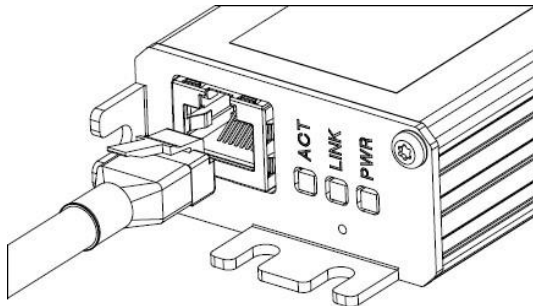
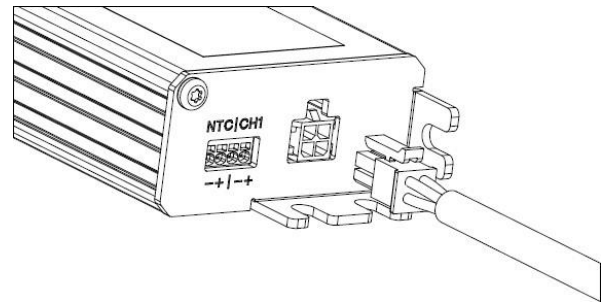

fig. 1
fig. 2
Step 3. Snap in the RJ45 connector into the Gateway as shown (fig. 1). Snap the 4ckt Micro-Fit 3.0 Harness Connector into the female connector as shown below (fig. 2) Poke tinned wire “LED +” and “LED -” into poke-in connector in “CH1 +/-”.